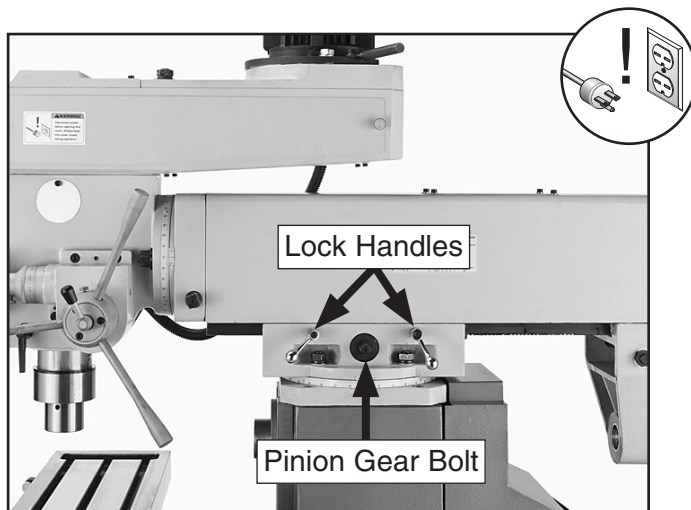

Figure 24. Ram back-and-forth controls.
2. Loosen two lock handles shown in **Figure 24**.